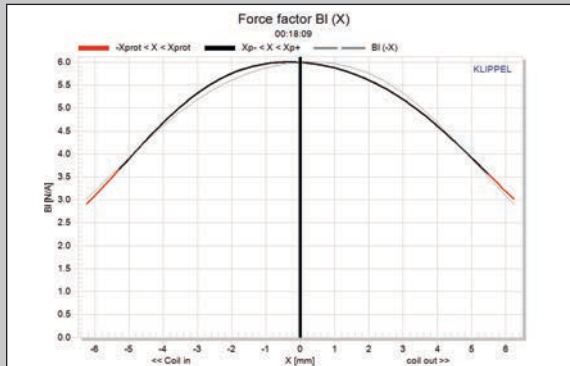
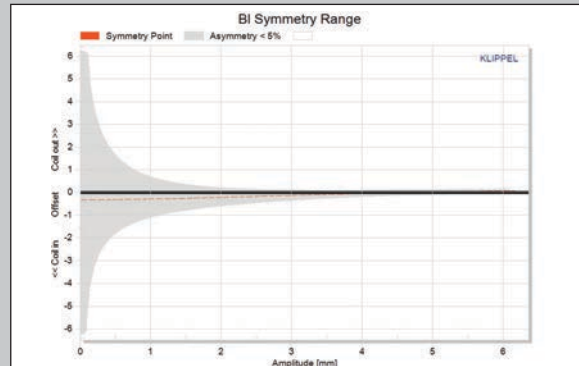
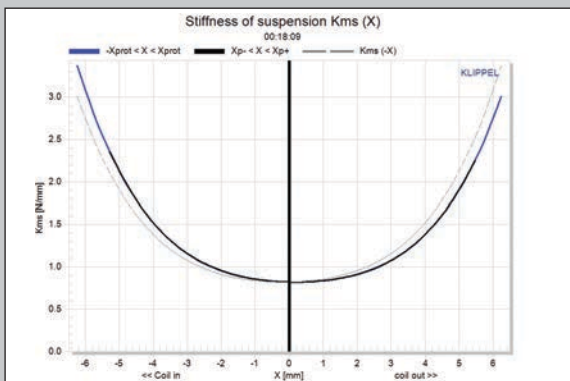
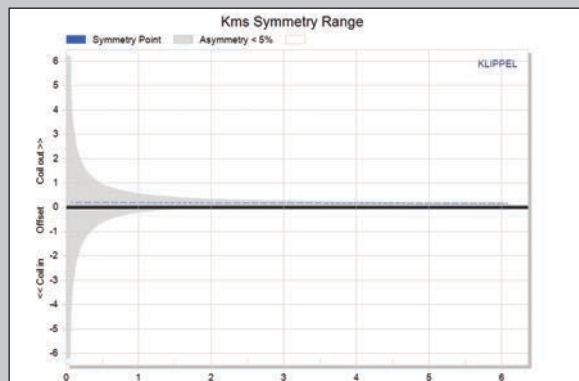

Figure 13: Klippel Analyzer BI (X) curve for the Tang Band W3-2052S
Figure 14: Klippel analyzer BI symmetry range curve for the Tang Band W3-2052S
Figure 15: Klippel analyzer mechanical stiffness of suspension  $K_{MS}$  (X) curve for the Tang Band W3-2052S
Figure 16: Klippel analyzer  $K_{MS}$  symmetry range curve for the Tang Band W3-2052S
Klippel analysis for the W3-2052S produced the Klippel data graphs shown in **Figures 13–16**. The Test Bench analyzer is provided courtesy of Klippel GmbH and the analysis was performed by Patrick Turnmire, of Redrock Acoustics. Please note, if you do not own a Klippel analyzer and would like this type of data, Redrocks Acoustics can perform the analysis. For more information, visit [www.redrockacoustics.com](http://www.redrockacoustics.com).
**Figure 13** shows W3-2052S's BI(X) curve, which is broad and symmetrical typical of a driver with substantial  $X_{MAX}$  (5 mm is a large  $X_{MAX}$  for a 3" driver). The BI symmetry curve in **Figure 14** shows virtually no offset for this driver. **Figure 15** and **Figure 16** show the W3-2052S's  $K_{MS}(X)$  and  $K_{MS}$  symmetry curves. As with the BI curve,
the  $K_{MS}$  stiffness of compliance curve (**Figure 15**) is very symmetrical, with only a minor coil-out offset. The  $K_{MS}$  symmetry range curve has a minor 0.34-mm coil-out offset